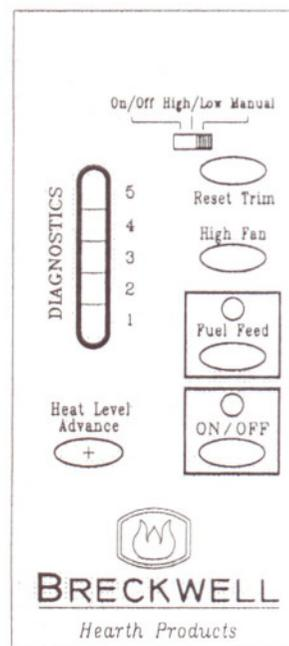

FIGURE 12
PANEL CONTROLS (See Figure 12)
- The green light located above the On/Off button (in the On/Off box) will flash during the ignition start-up period. (See figure 12)
- While the stove's auger system is feeding pellets the green light (in the "Fuel Feed" box) will be on. (See figure 12)